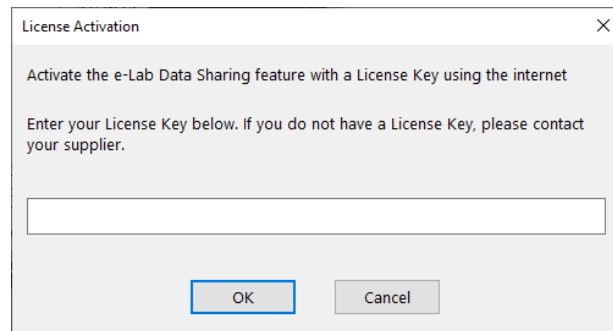

Figure 8 License Activation Screen
- The License Application window will open, enter the license key (please contact your supplier if a key is not available). Then click OK (Figure 8).